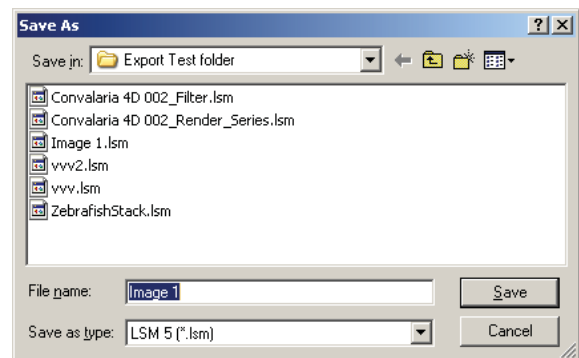

Fig. 27 Save as window
- The WINDOWS **Save As** window (Fig. 27) appears.